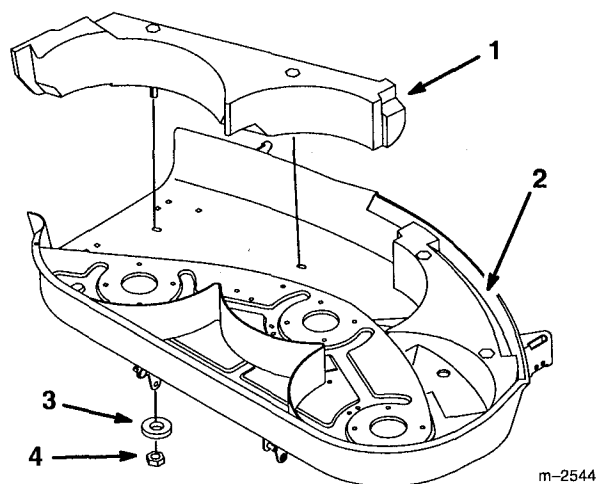

Figure 23
2. Remove the two locknuts and Belleville washers holding the right side baffle to the deck (Fig. 23).
3. Slide the right side baffle out of the interlock with the left side baffle to remove it from the deck (Fig. 23).